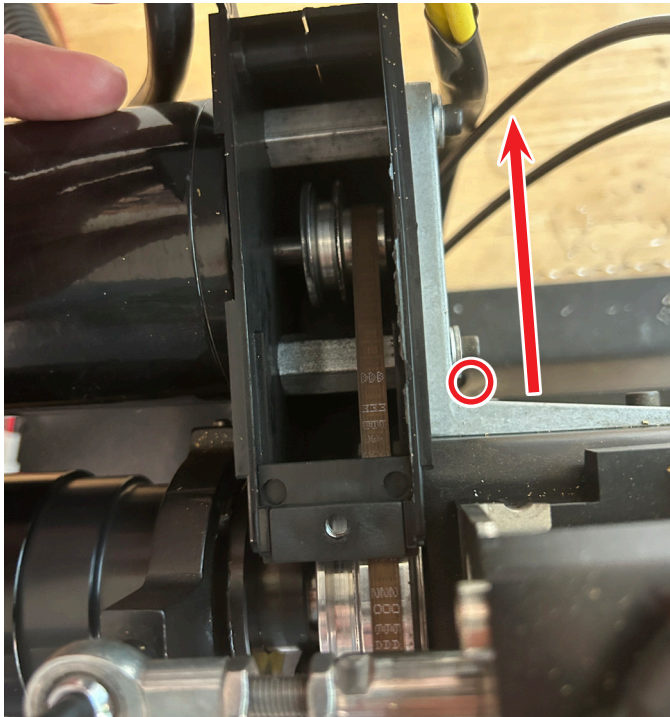

FIGURE 8—The red circle indicates where to place a large hex wrench for leverage.
H. Place a larger hex wrench between the motor bracket and the head of the first motor bracket adjustment screw. Then, using the hex wrench like a pry bar, force the motor away from the headstock to tighten the drive belt (see Figure 8).